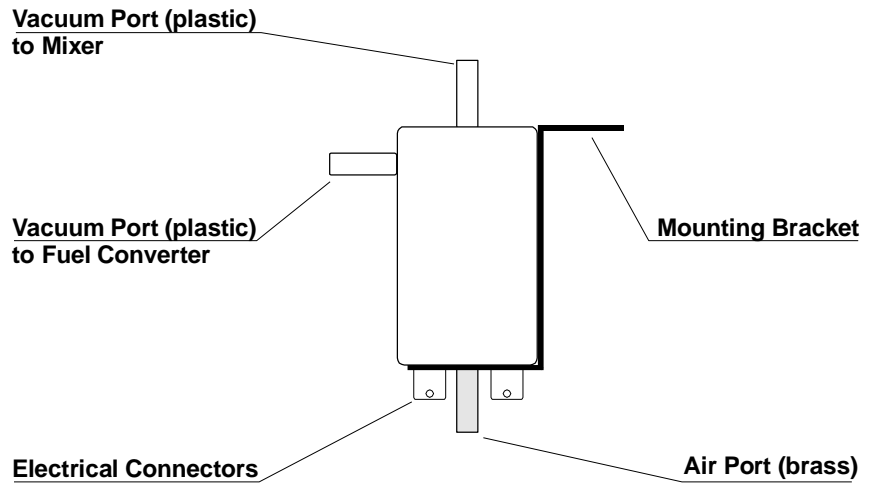

Figure 2. Solenoid Valve Ports
Install the foam filter on the air port of the solenoid valve (it is the brass port of the solenoid located in the proximity to the electrical connections, as shown in Figure 2). Making sure that the port opening is not blocked, place a drop of adhesive on the brass port and place the foam filter over the port.
This step involves (1) the installation of the vacuum elbow into the fuel regulator, (2) connecting the elbow with the solenoid valve, (3) installing the vacuum fitting in the mixer and (4) connecting the solenoid valve with the mixer vacuum. Solenoid valve ports are referenced in Figure 2.
(1) Locate the atmospheric vent on the regulator. It may be necessary to modify the vent opening to accept the 1/8 N.P.T. black elbow fitting. Position the vacuum elbow so that the orifice is aimed downward to allow moisture which may accumulate in the line to drain. Note: Do not over-tighten (to avoid breaking the plastic thread).
(2) Cut sufficient length of the flexible vacuum hose and connect the vacuum elbow with the plastic vacuum port on the side of the solenoid valve (see Figure 2).
Cut sufficient length of the flexible vacuum hose and connect the vacuum fitting in the mixer with the remaining plastic vacuum port of the solenoid valve (see Figure 2).